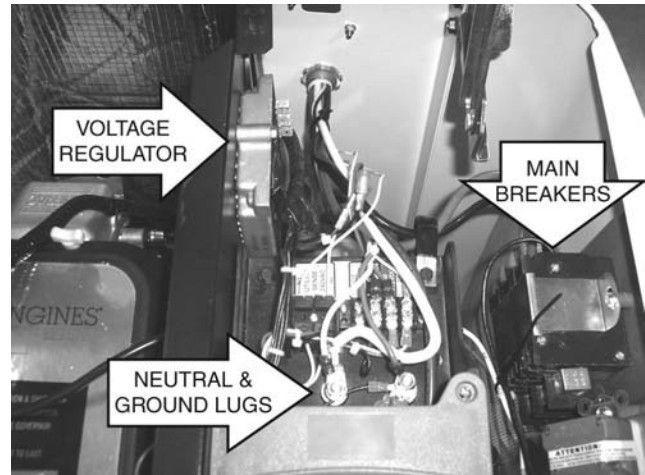

Figure 37.
14. Remove Stator Wires: Remove all wires from the voltage regulator, remove the common and ground wires from landing lugs, and remove N1 & N2 wires from main breakers. See Figure 37.